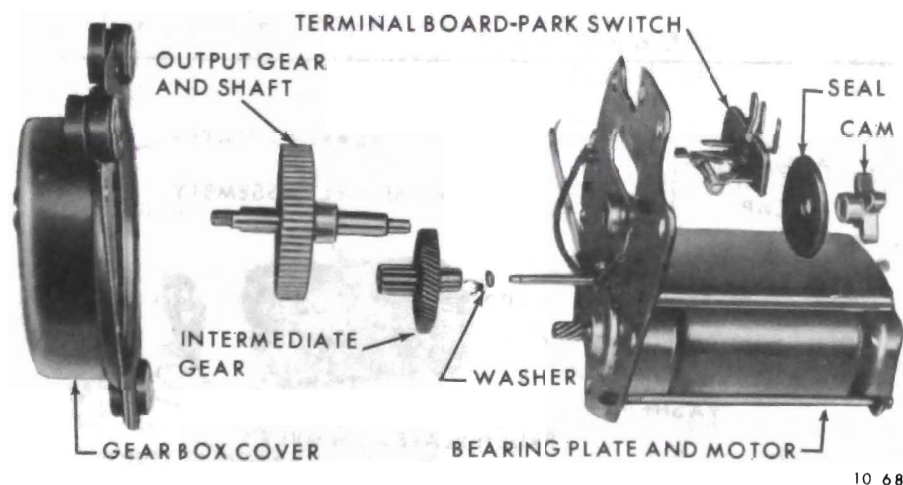

Figure 10-12 - Gear Train and Terminal Board - Exploded View
1. Install new terminal board-park switch assembly, or gear train as required. See Figure 10-12.